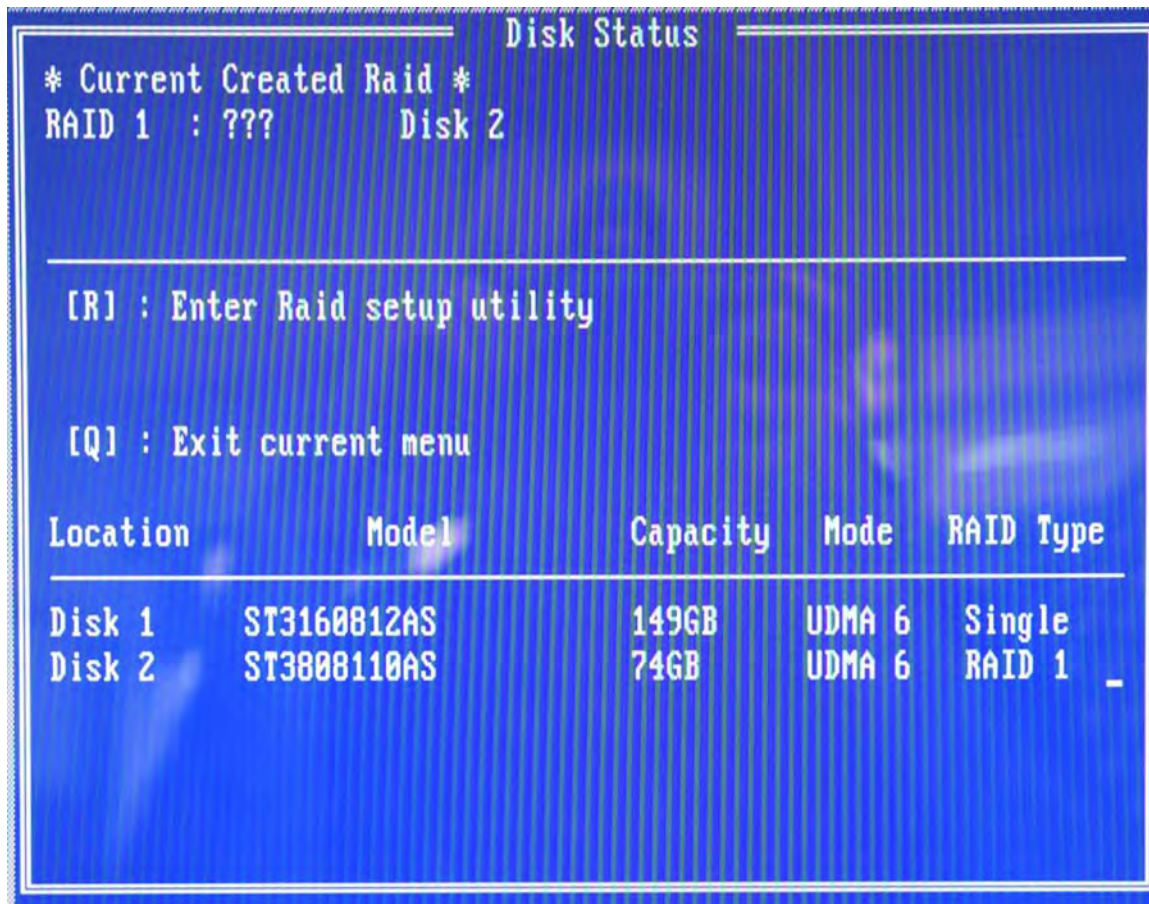

Figure D-4: BIOS RAID Utility
- Step 2:** You will be prompted to press **<CTRL>** and **<S>** to enter the BIOS RAID Setup Utility (see **Figure D-4**).